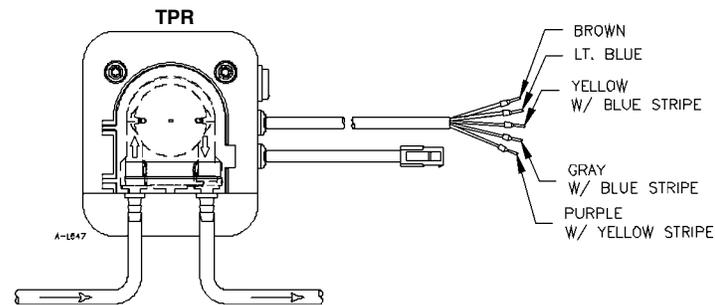

FIGURE 4
**TPR Series** (reservoir control tank) - Connect the brown wire to the main phase (line) and the blue wire to the neutral phase (common) (Figure 4). Make sure power is off when connecting the reservoir to the pump. Connect the cable from the reservoir tank to the pump by connecting the 4-prong plug to the corresponding cable on the pump.
**C and NC** - When water rises, the circuit opens to turn off the compressor and prevents overflow by connecting the gray with the blue stripe wire and the yellow with the blue stripe wire. (Figure 4)
**C and NO** - When water rises, the circuit closes to activate a bell or alarm (not provided) by connecting the gray with the blue stripe wire and the purple with the yellow stripe wire (Figure 4).